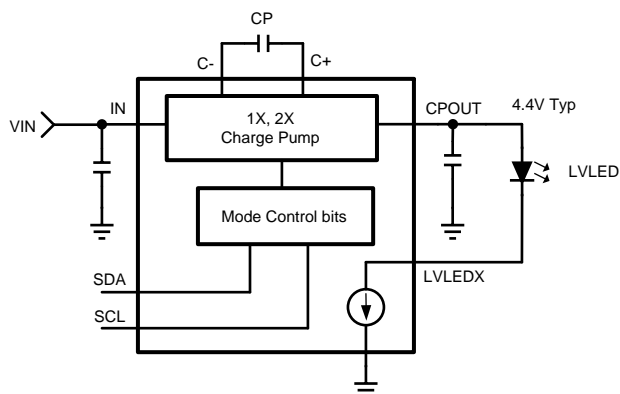

Figure 23. Integrated Charge Pump
The LM3533 features an integrated (2 \times /1 \times) charge pump capable of supplying up to 150 mA. The fixed 1-MHz switching frequency allows for use of tiny 1- μ F ceramic flying capacitors (CP) and output capacitor (CPOUT). The charge pump can supply the power for the low-voltage LEDs connected to LVLED1 to LVLED5 and can operate in 4 different modes: disabled, automatic gain, 1 \times gain, or 2 \times gain (see Figure 23).